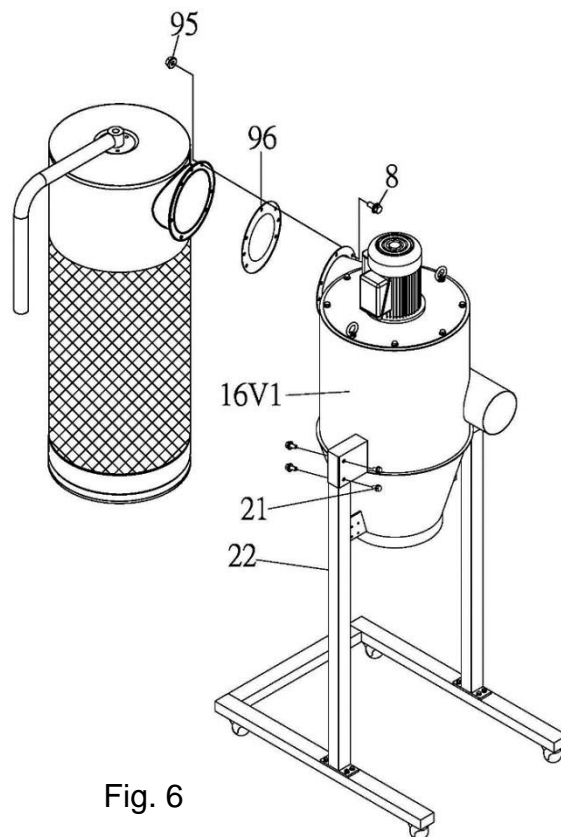

Fig. 6
7. Assemble the Canister filter (NO. 55v1) on the Main Housing (NO.16v1) and tighten with Gasket (No.96) and Flange Bolt Screw $5/16"$ x $3/4"$ (NO. 8) and Nut $5/16"$ (NO. 95). See FIG. 6